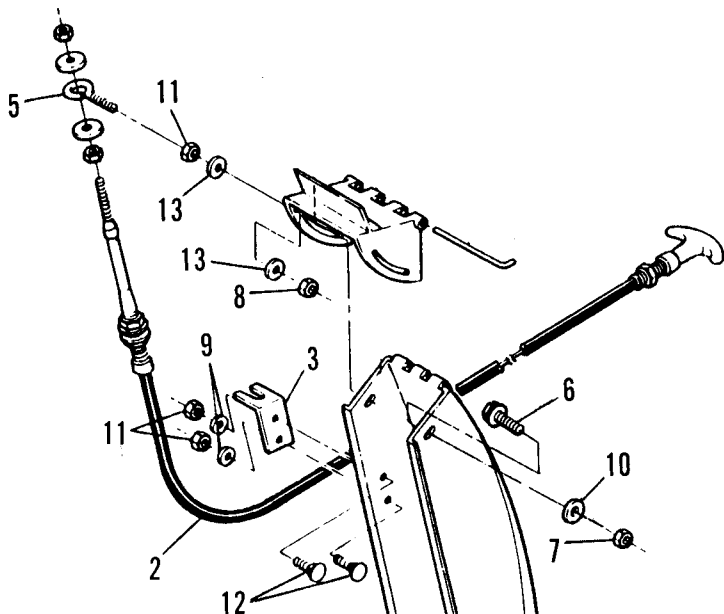

FIGURE 2
STEP 4: Install cable mount (item 3) using two 1/4"x1/2" carriage bolts on inside of chute and secure with two 1/4" internal tooth lock washers and 1/4" hex nuts. See figure 2. Remove wing nut, washer and carriage bolt from left side of deflector and discard. Replace with 5/16x3/4" cap screw, washer and nut found in kit. Position these items the same as the right side and don't overtighten. Deflector has to be free to move up and down.